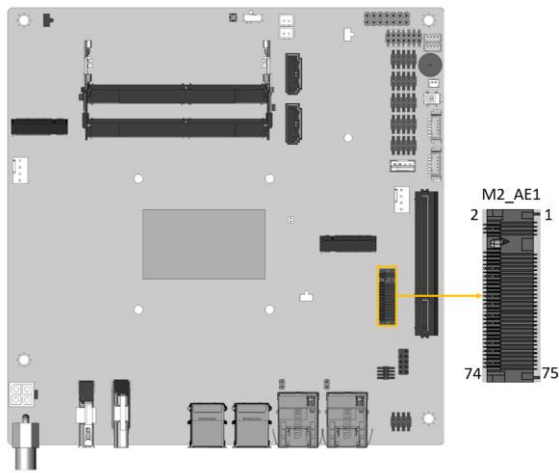

Figure 3-14: M.2 A-key Slot Location
- CN Type:** M.2 A-key 2230
- CN Location:** See **Figure 3-14**